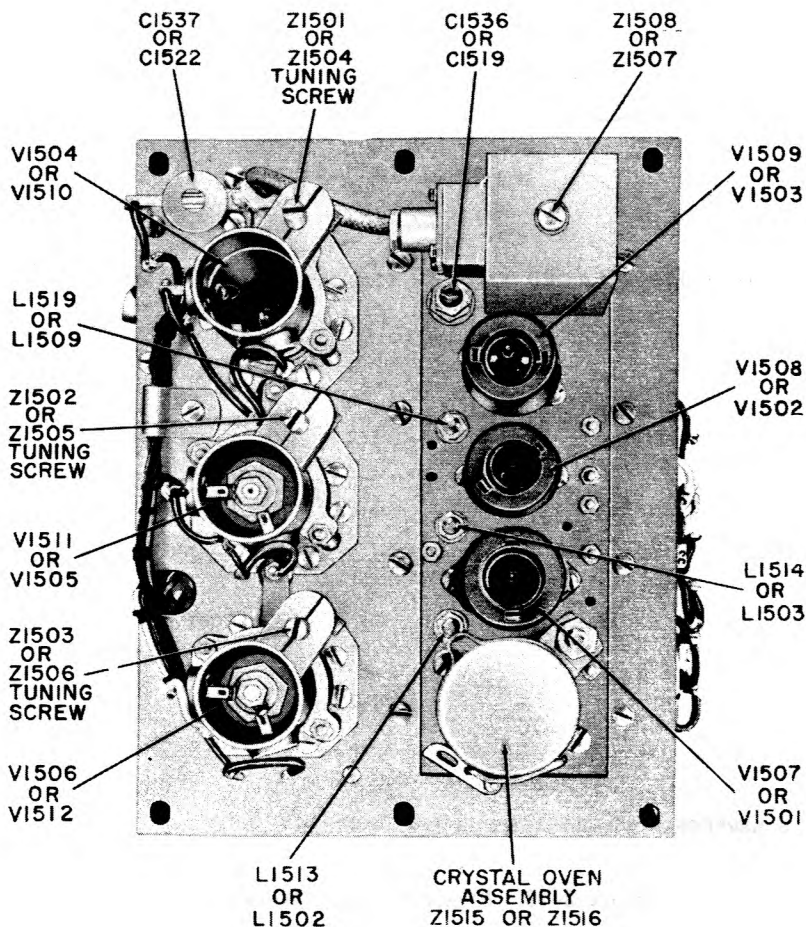

Figure 2-18. Frequency Multiplier-Oscillator CV-1171/GRN-9D, R-F Chassis, Top View
Step 6. Set METER SELECTOR switch S501, located on front panel of radio receiver, to CR201 and adjust tuning screw on tripler cavity Z1501 (high band) or Z1504 (low band) (figure 2-18) for maximum reading on TEST METER M501. If reading on TEST METER M501 exceeds midscale (50 microamperes), open frequency multiplier-oscillator drawer and adjust receiver local oscillator output jack J1502 (high band) or J1505 (low band) by moving assembly in or out until TEST METER M501 reading is below midscale.